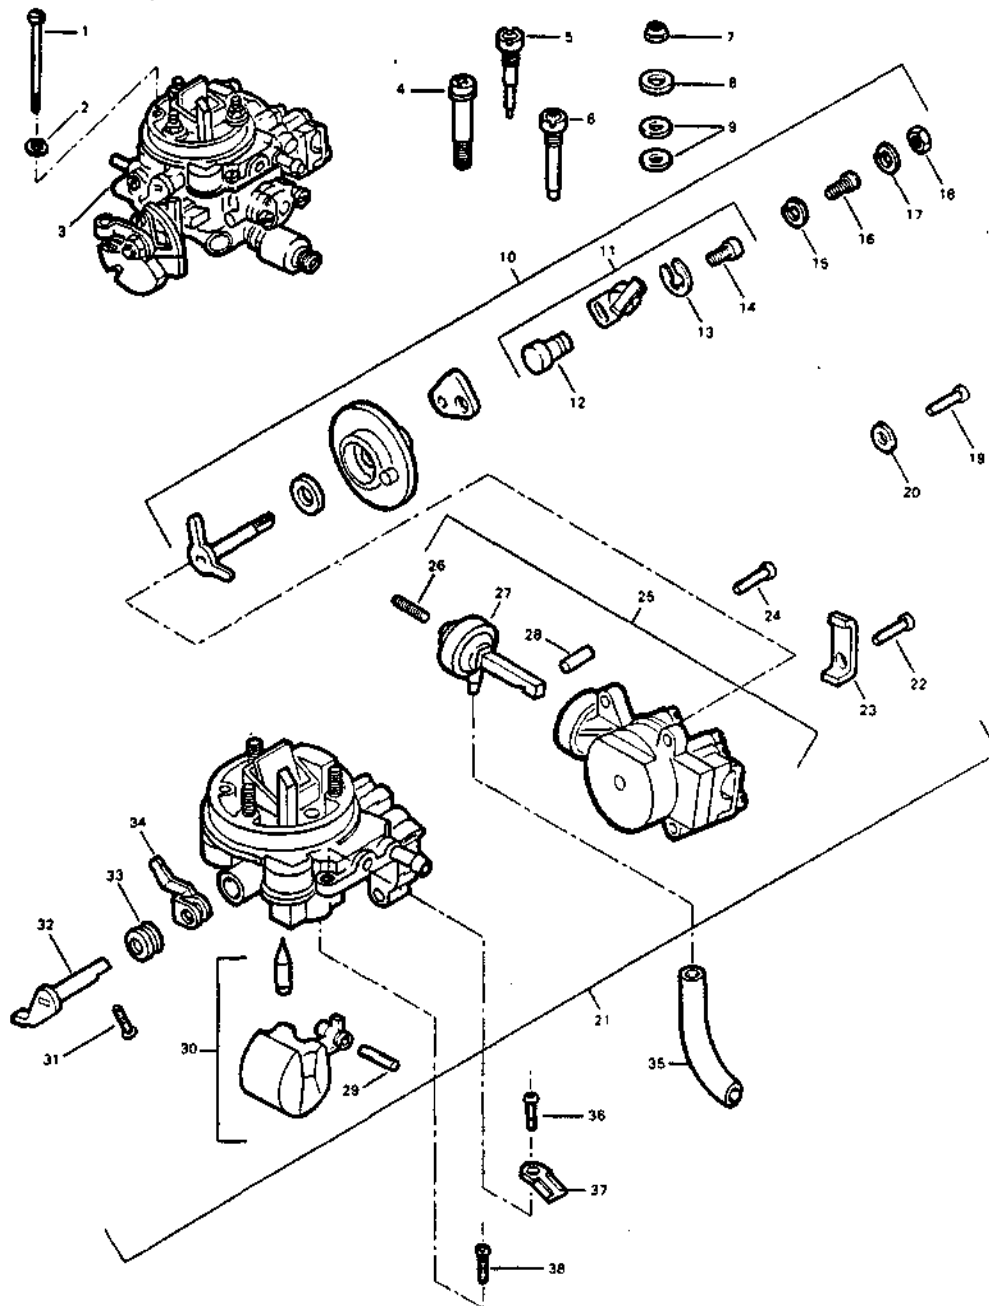

Figure 1 Carburetor and carburetor cover
3.1.8 Upon completion of rebuild, the alternator shall consist of all the components listed in Table I. Figures 1, 2 and 3 are provided for component identification and location within the alternator.
3.2 Alternator components.- The following Table lists all of the components comprising the Leese Neville 60 and 100 Amp alternator; see Figures 1, 2 and 3 for component identification and location within the alternator assembly.